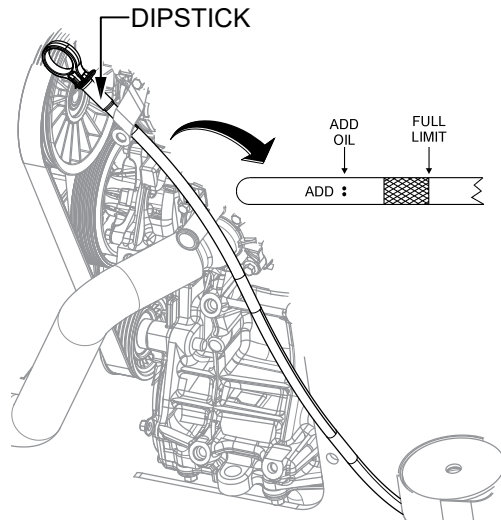

Figure 20. Engine Oil Dipstick
2. Pull the engine oil dipstick (Figure 20) out of its holder and wipe it with a clean rag.
4. Determine if engine oil is low. Oil should be between the upper and lower marks (Figure 20) on the dipstick.